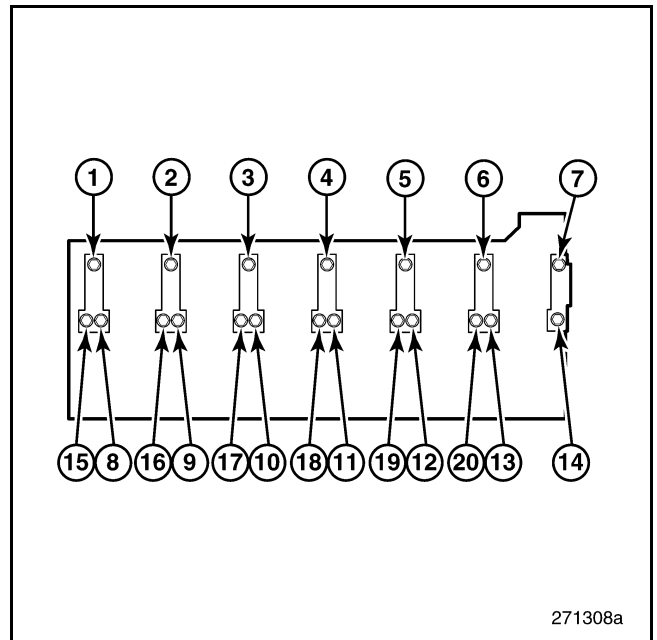

Figure 337 — Rocker Arm Shaft Screw Installation Sequence
5. Insert the long fasteners (Nos. 8–20 in Figure 337) through the shaft, camshaft bearing caps and into the cylinder head.